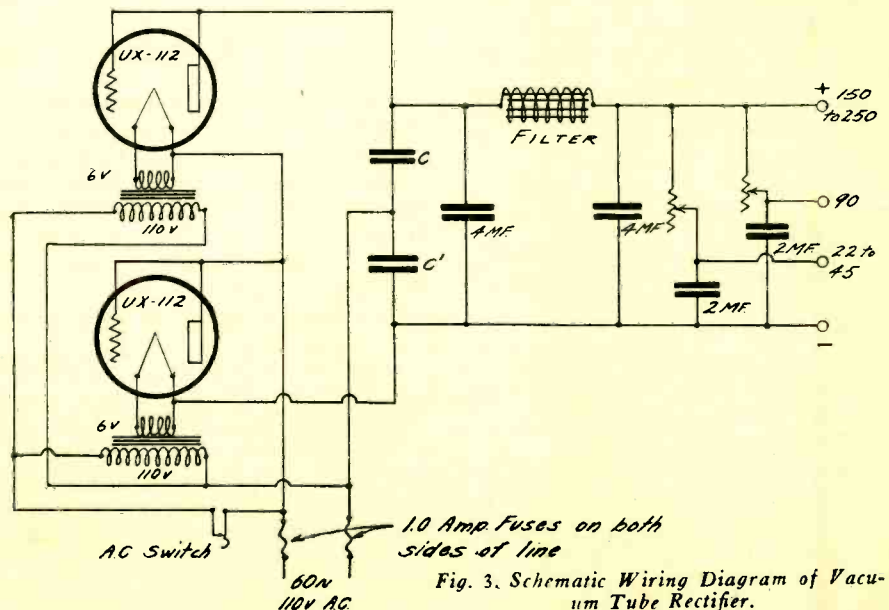

Fig. 3. Schematic Wiring Diagram of Vacuum Tube Rectifier.
- Necessary Bradleyohms and 2 mfd. condensers according to battery taps required. See Fig. 3.
Fig. 3 shows schematically the layout of the current supply set as finally arranged. It will be noted that separate transformers were used for lighting the filaments of the rectifier tubes. This is necessary, as were a single transformer used, one of the rectifiers would be shorted out. The transformer T shown in Fig. 1 was not used, the 110 volts being taken directly from the house supply.
The general appearance of the B eliminator is shown in the picture. Lay out the apparatus on a baseboard approximately 8x12 in. keeping the rectifier tubes, filament transformers and set shown is a good combination to use, for B supply lead when voltages lower than the UX-112 or UX-216-B tubes. Bradleyohms should be placed in the positive 150 are desired, as shown in Fig. 3. These resistances should be adjusted until the proper voltage is applied to the tubes, which may be determined best with a high resistance voltmeter. If one is not obtainable, and the set with which the eliminator is to be used is now operating of by-pass condensers in one group, and the filter at the other end of the board. If desired, the outfit can be mounted on a panel, so that the adjustments of the Bradleyohms may be more easily made. As the voltages in various parts of the circuit run as high as 250 volts, it would be preferable to wire the parts together with insulated lamp cord, but bus bar wire may be used if it is well insulated with spaghetti.